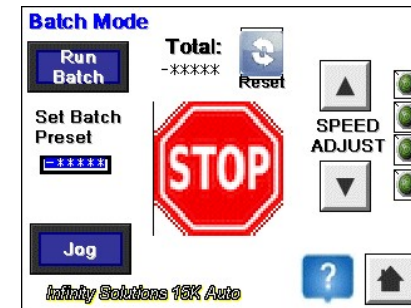

Figure 11: Batch Total
3. Line up the tips on both sides of the paper stop with the appropriate line on the scale so that the appropriate white line on the scale is just visible [see Figure 11].